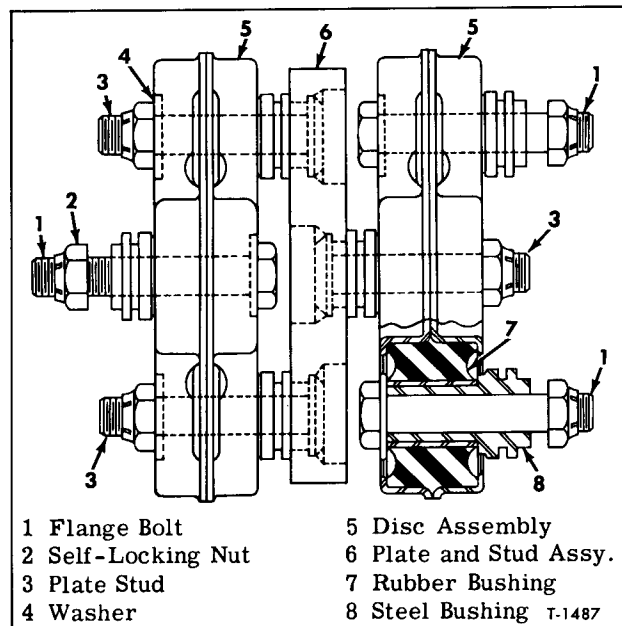

Figure 11—A/C Compressor Coupling Assembly
The drive coupling assembly shown in figure 11, constitutes two riveted disc assemblies which are attached to a common plate and welded stud assembly. The disc assemblies each consist of a pair of metal stampings which enclose four flexible rubber bushings.
In place of the compressor drive propeller shaft assembly, used on early coaches, a Morflex coupling (fig. 11) is now used. The coupling discs and plate may be disassembled by removing the self-locking stud nuts.
Key numbers refer to figure 11.
Assembling Drive Coupling (Fig. 11)
2. Place drive coupling in position at accessory drive flange with bolts (1, fig. 11) through holes in flange.